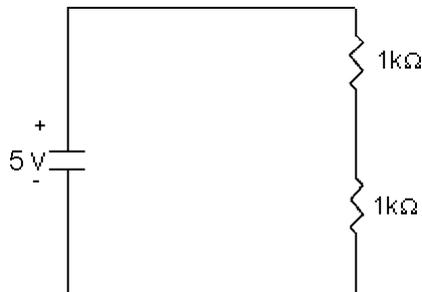

Figure 3. Series resistor circuit
7. Assemble the circuit shown in Figure 3. **Q6:** What values do you expect for voltages across each of the two resistors and across the series combination of the two resistors? Using the DMM in its voltage mode, measure these three values using the DMM. Do your results make sense?